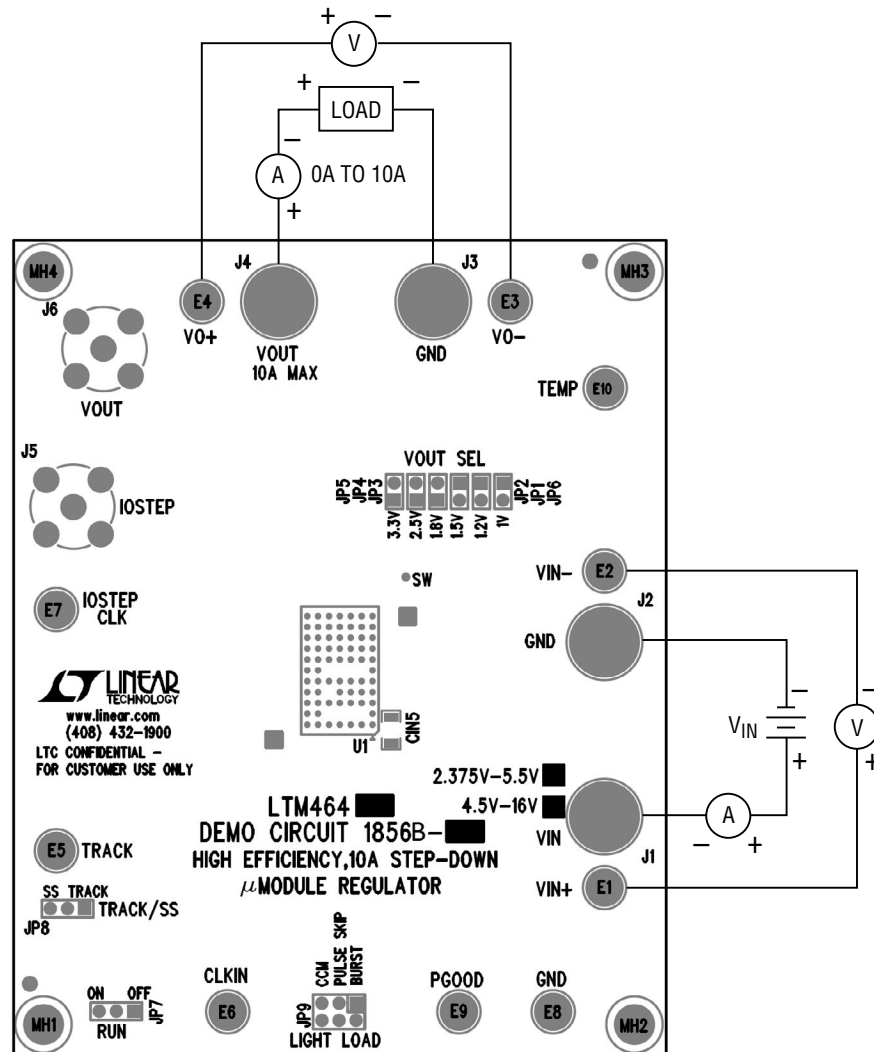

Figure 1. Test Setup of DC1856B-B
Demonstration circuit 1856B-B is an easy way to evaluate the performance of the LTM4649EY. Please refer to Figure 1 for test setup connections and follow the procedure below.
3. With power off, connect the load, input voltage supply and meters as shown in Figure 1.